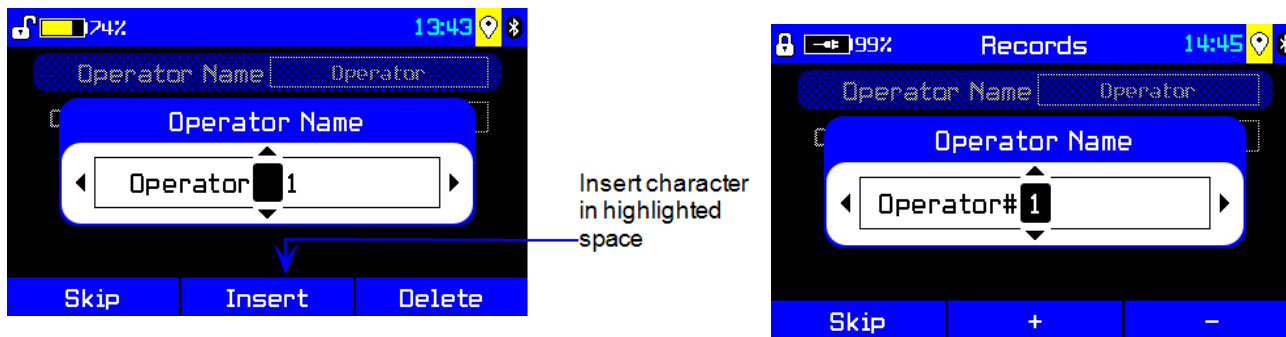

Figure 2-25: Inserting a character in a blank space
- If you select a blank space and use **Insert** (Figure 2-25: L), the blank space will be filled (Figure 2-25: R).